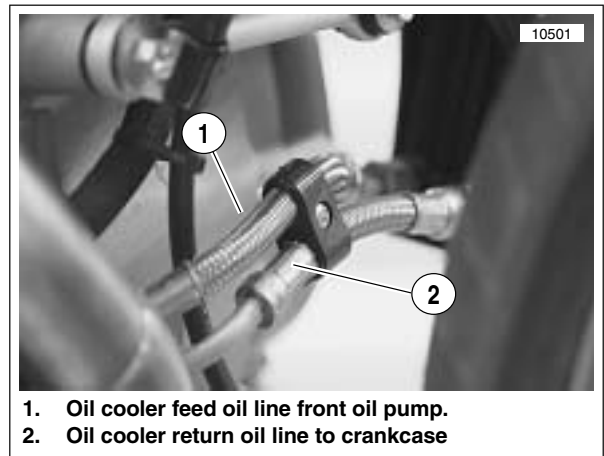

Figure 3-48. Oil Cooler Oil Lines
29. See Figure 3-48. Install oil cooler oil feed line first at oil pump and tighten to 22-24 ft-lbs (29.8-32.5 Nm). Lightly coat the threads of the oil cooler fitting with clean H-D 20W50 engine oil. Wipe off any excess oil. Tighten feed oil line to 19-21 ft-lbs (25.8-28.5 Nm) at oil cooler making sure to center the oil line between the oil sending switch and the return oil line fitting on the crankcase.
- See Figure 3-48. The orientation of the oil cooler return oil line where it enters the crankcase should be at approximately 6 o'clock to allow for proper alignment and clearance of other components on the vehicle.